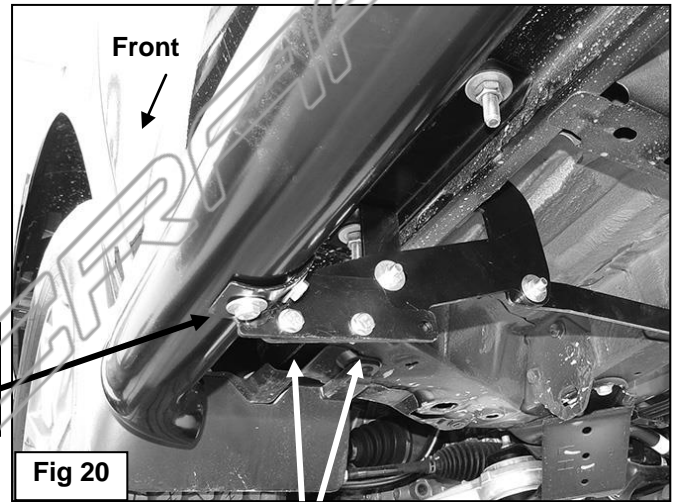

Fig 20
17. Once proper position has been selected, bolt the front Sidebar Bracket, with cradle pointing to rear, to the back of the Mounting Bracket with (2) 8mm x 25mm Hex Bolts, (4) 8mm x 16mm Small Flat Washers and (2) 8mm Nylon Lock Nuts, **(Figure 20)**. Repeat this Step to bolt the rear Sidebar Bracket, with cradle facing forward, to the front facing side of the rear Mounting Plate, **(Figure 21)**.
18. Select the driver/left Sidebar. **NOTE:** Bent end toward front of vehicle. Carefully place the Sidebar in position on top of the Brackets. Line up the threaded holes in the bottom of the Sidebar with the slots in the Brackets. Bolt the Sidebar to the Brackets with (4) 8mm x 25mm Flex Bolts, (4) 8mm Lock Washers and (4) 8mm x 24mm Large Flat Washers, **(Figures 20 & 21)**. Do not tighten hardware at this time.